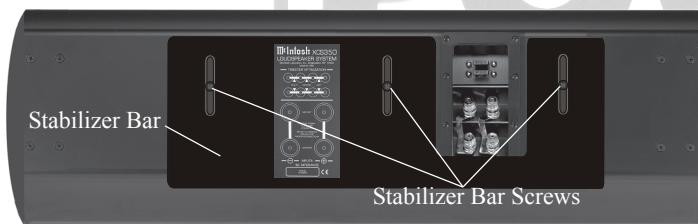

Figure 26
- Using the supplied Allen Wrench, remove the three screws securing the Stabilizer Bar to the back of the XCS350. Refer to figure 26. Replace the just removed center screw with a supplied one of the same type, but